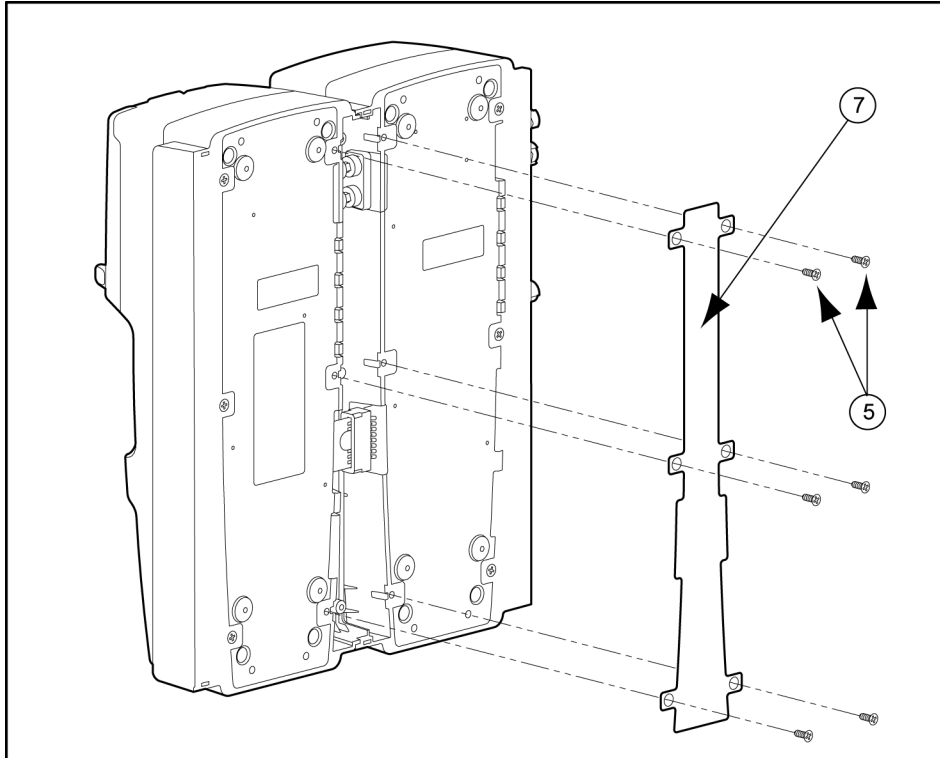

Figure 17. Attaching Back Cover Plate (Back View)
- Figure 17.,
12. Fasten the bottom cover plate to the space between the two docking modules using six Phillips flat-head screws. Refer to Figure 17.